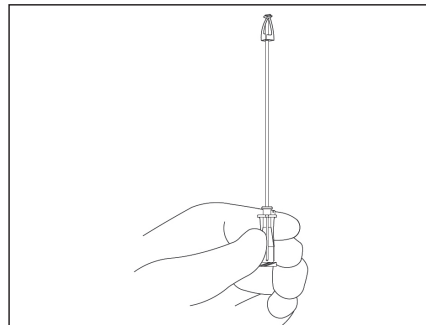

Figure 18
- In one continuous motion, advance clip housing over needle bevel activating safety mechanism. The clip will remain on the needle bevel (refer to Figure 18). The clip housing will separate from the clip and needle.